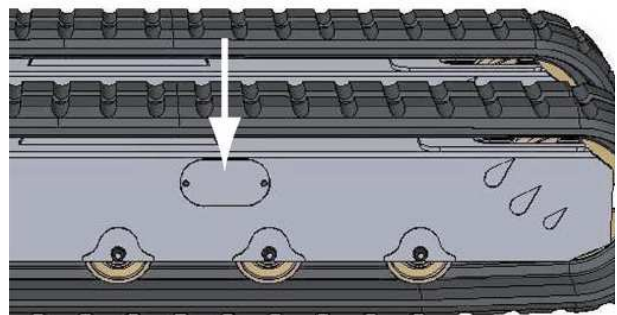

Fig. 8.13-2 - Crawler spar side closing position
- Remove the side closing of the spar (Fig. 8.13-2).